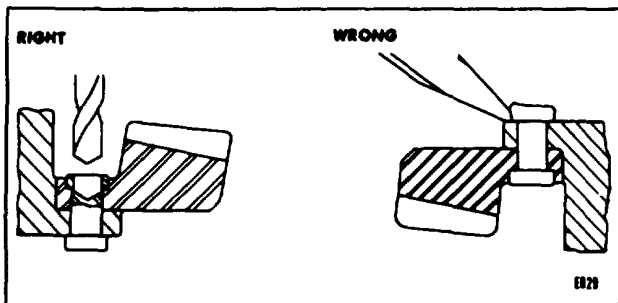

Figure 14.
10. Remove rivets and separate ring gear and case. Do not remove gear unless it is necessary. If replacement of the ring gear is required, the rivets should be drilled from the gear side, using a drill slightly larger than the rivet itself. (Fig. 14) The remaining portion of the rivet can then be driven out with a punch.
Knocking off or "busting" rivets (Fig. 14) is a dangerous practice both from the standpoint of personal safety and because such practice may cause distortion to the gear cases or gears and will elongate the holes.